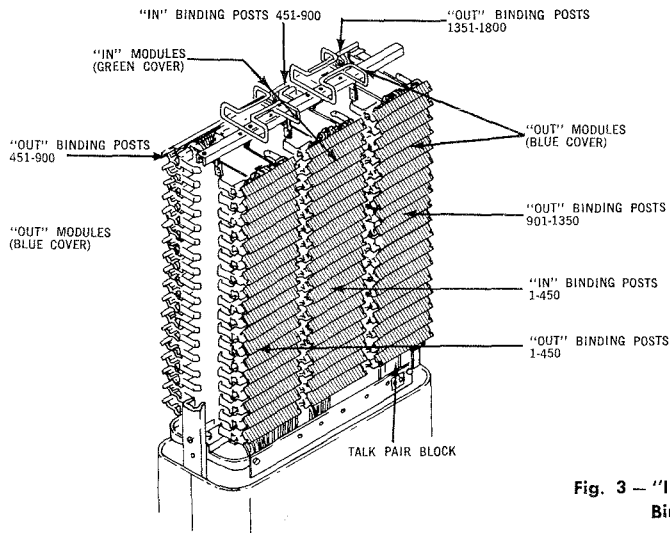

Fig. 3 — "IN" and "OUT" Module Locations and Binding Post Counts
3.03 Connector modules that are equipped with "blue" covers represent the "OUT" or distribution cables and the "Green" covers represent the "IN" or feeder cables. The count of the binding posts is shown in Fig. 3.